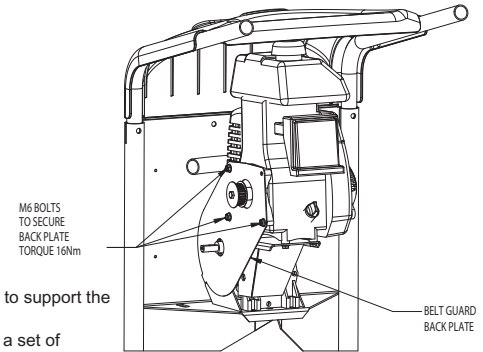

FIG 2. FITTING BELT GUARD BACK PLATE
7. Using the belt guard back plate provided, fit 3 of the 4 bolts in positions shown in fig.2 and torque to 16Nm.